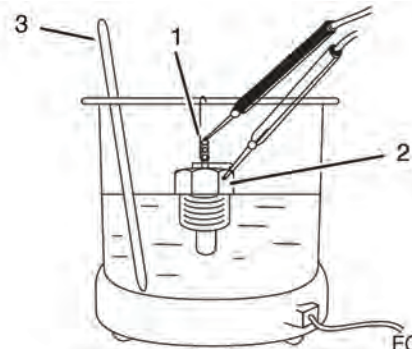

Figure 310
1. Check for proper operation of the temperature switch. Connect a continuity light or ohmmeter to the temperature switch. Connect one lead to the terminal of the switch (1, Figure 310) and the other lead to the metal portion of the switch (2, Figure 310)
2. Place the temperature switch and an accurate thermometer (3, Figure 310) in engine coolant.